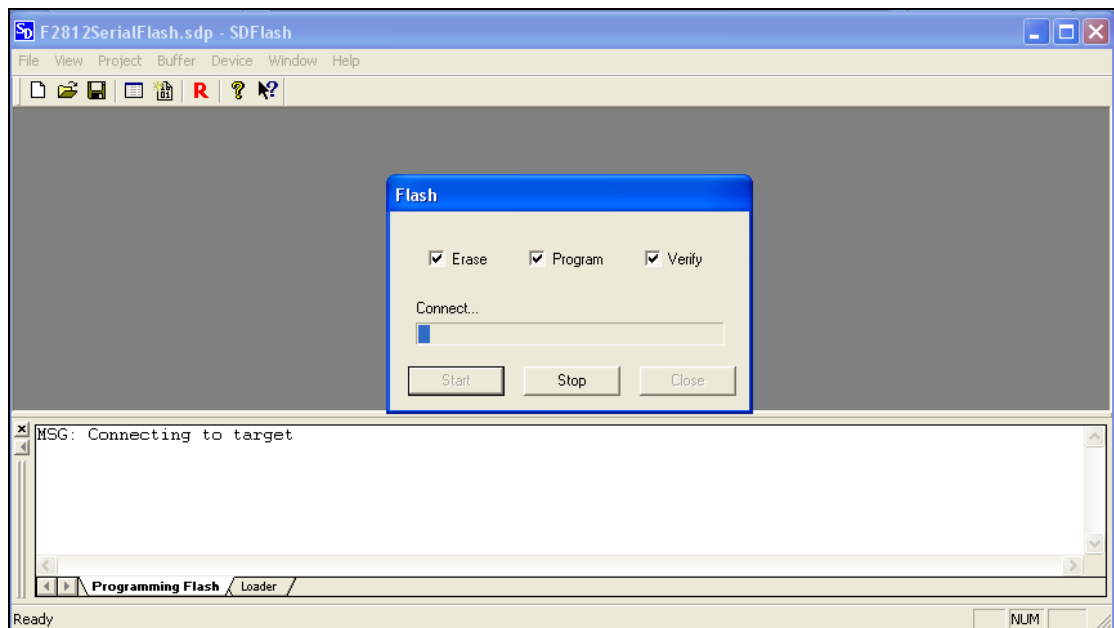
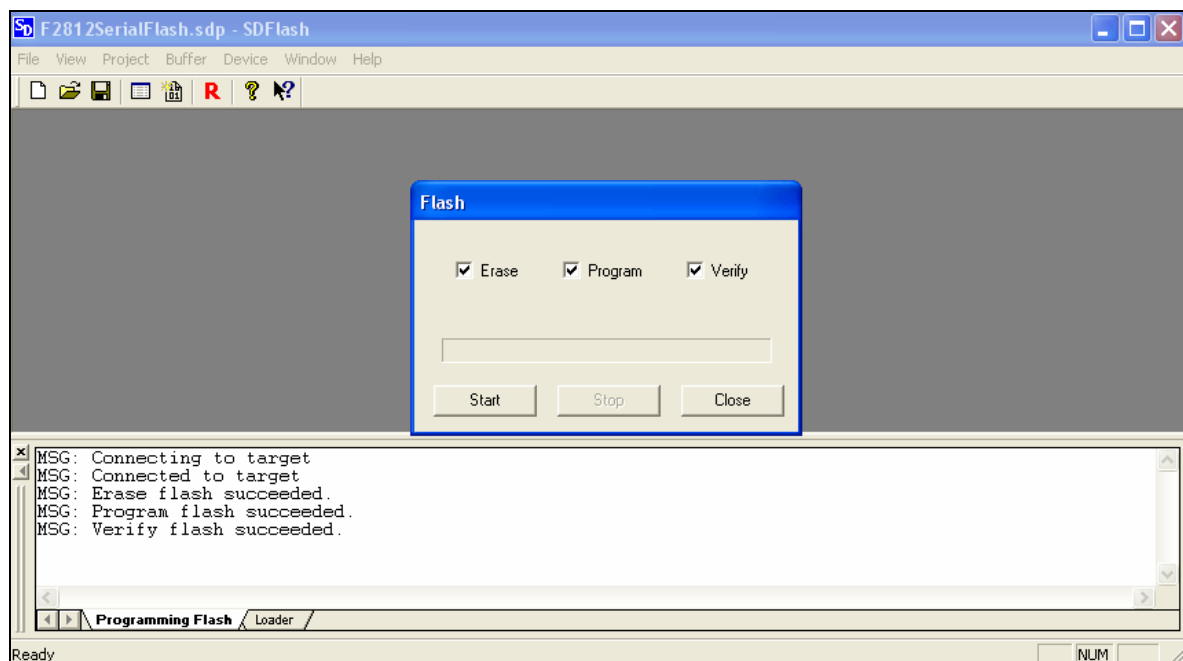

Figure 15: Connecting to target
Figure 16: Erase, Program, and Verify Flash succeeded
6. At this point, the Patroller Interface Unit should be made ready to receive a firmware upgrade. It is then necessary to press Start to Erase, Program and Verify the DSP FLASH memory. See *Figure 15* and *Figure 16*.